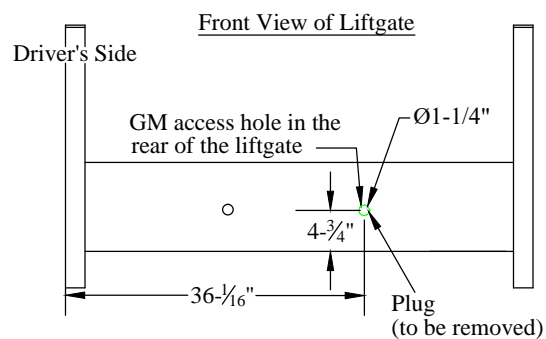

Figure 20: Spare tire access holes.
2. **Remove** the black plastic plug for your application (Figure 20).